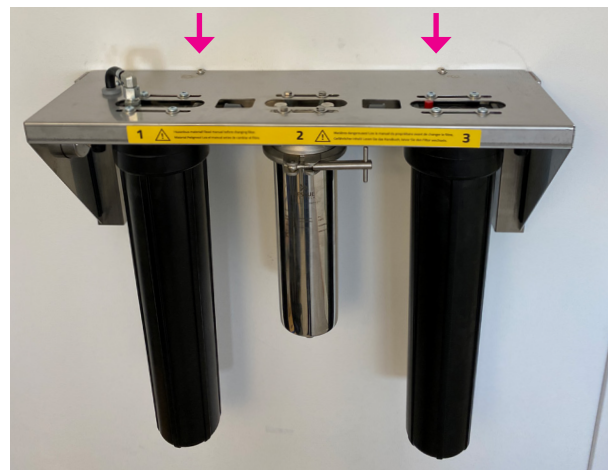

Figure 7
4. Fasten the previously unscrewed rack securing bolts to fix the filter rack on the wall mount (Fig. 7).